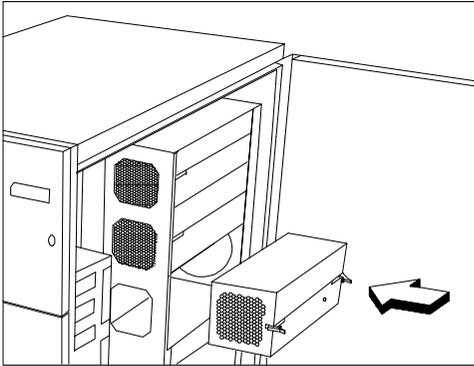

Figure B-12 Installing a Power Supply Module
6. Firmly hold the power supply and align it with a compartment on the power supply rack. Pressing the holding clips on the sides, push back the power supply until its gold edge connectors completely fit into the slot on the power backplane. See Figure B-12.